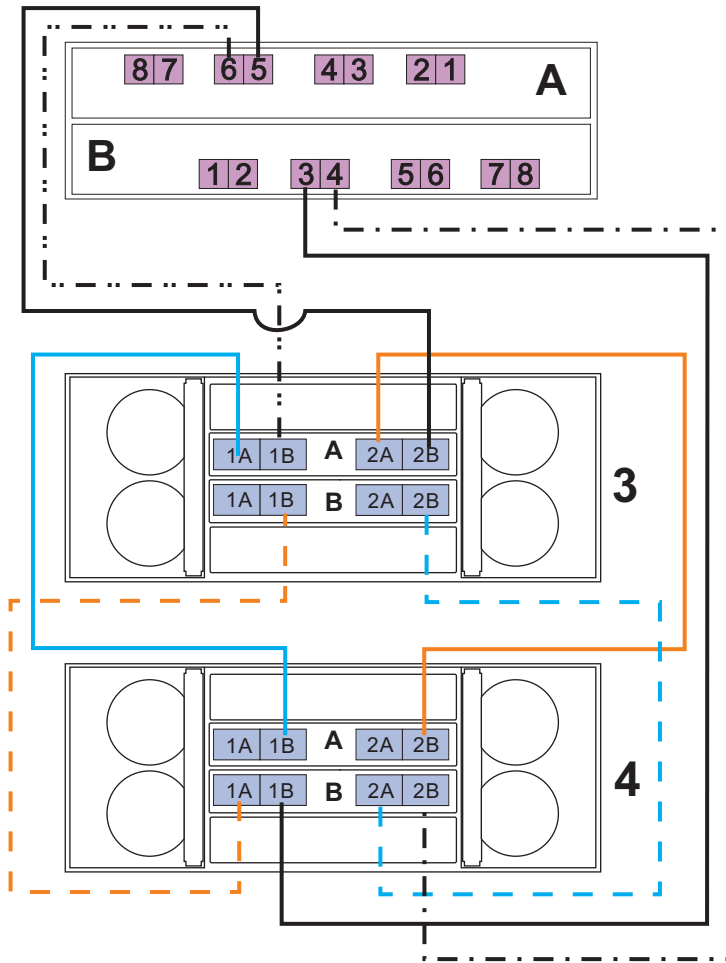

Figure 78. Cabling for eight EXP5060s, storage expansion enclosures 3 and 4 with drive-side trunking
- See Figure 78 on page 124 and Table 44 on page 125 for storage expansion enclosures 3 and 4